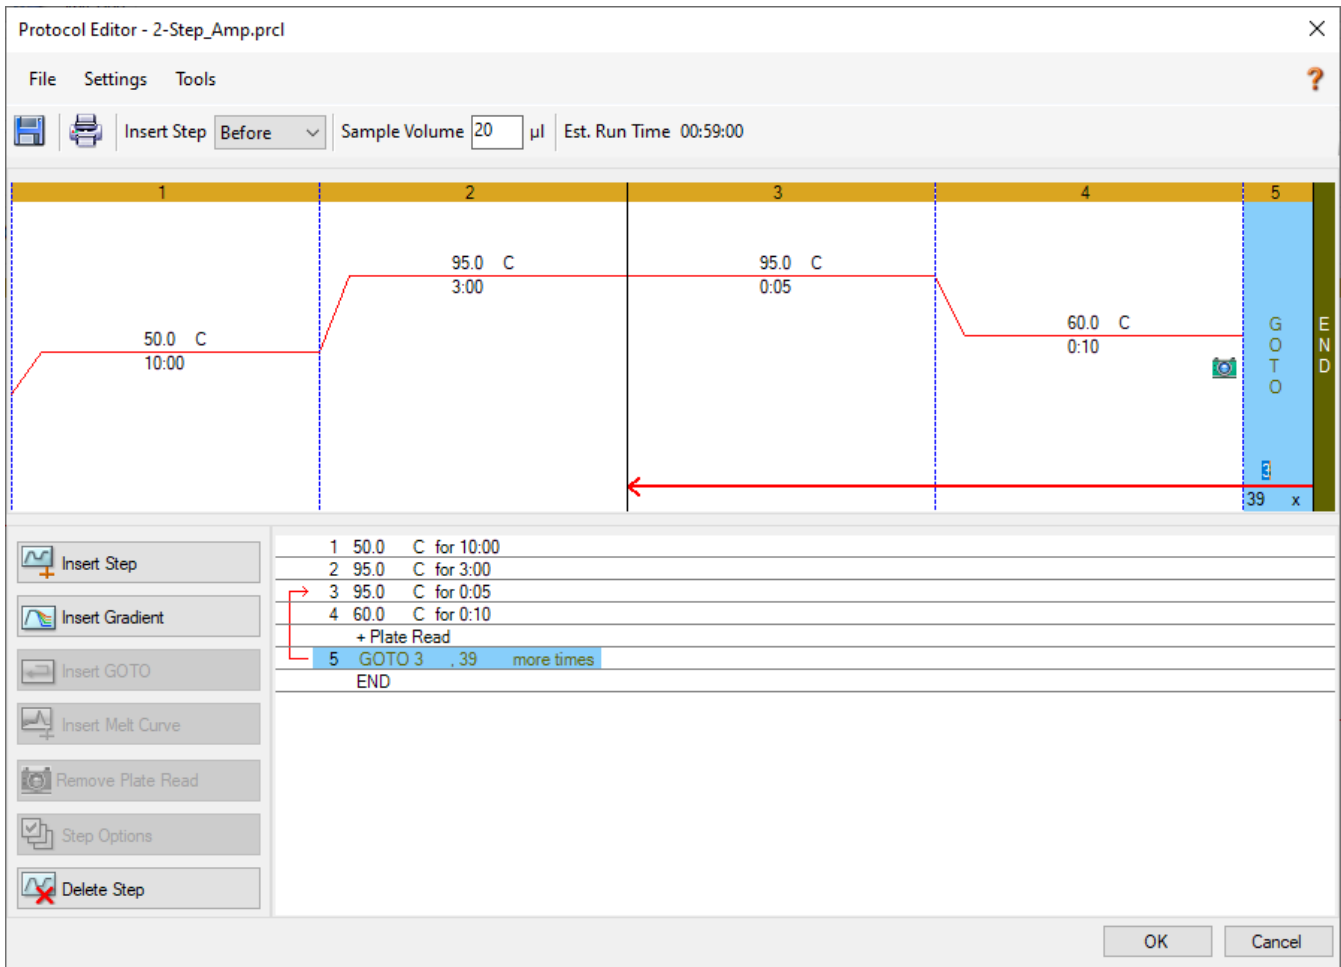

Figure 13 Thermal profile on the CFX Maestro Protocol Editor window
- 7 Adjust the other steps of the thermal profile to match **Figure 13**. The settings are also summarized in **Table 11**. Make sure that the GOTO step (step 5) is set to repeat 39 times.